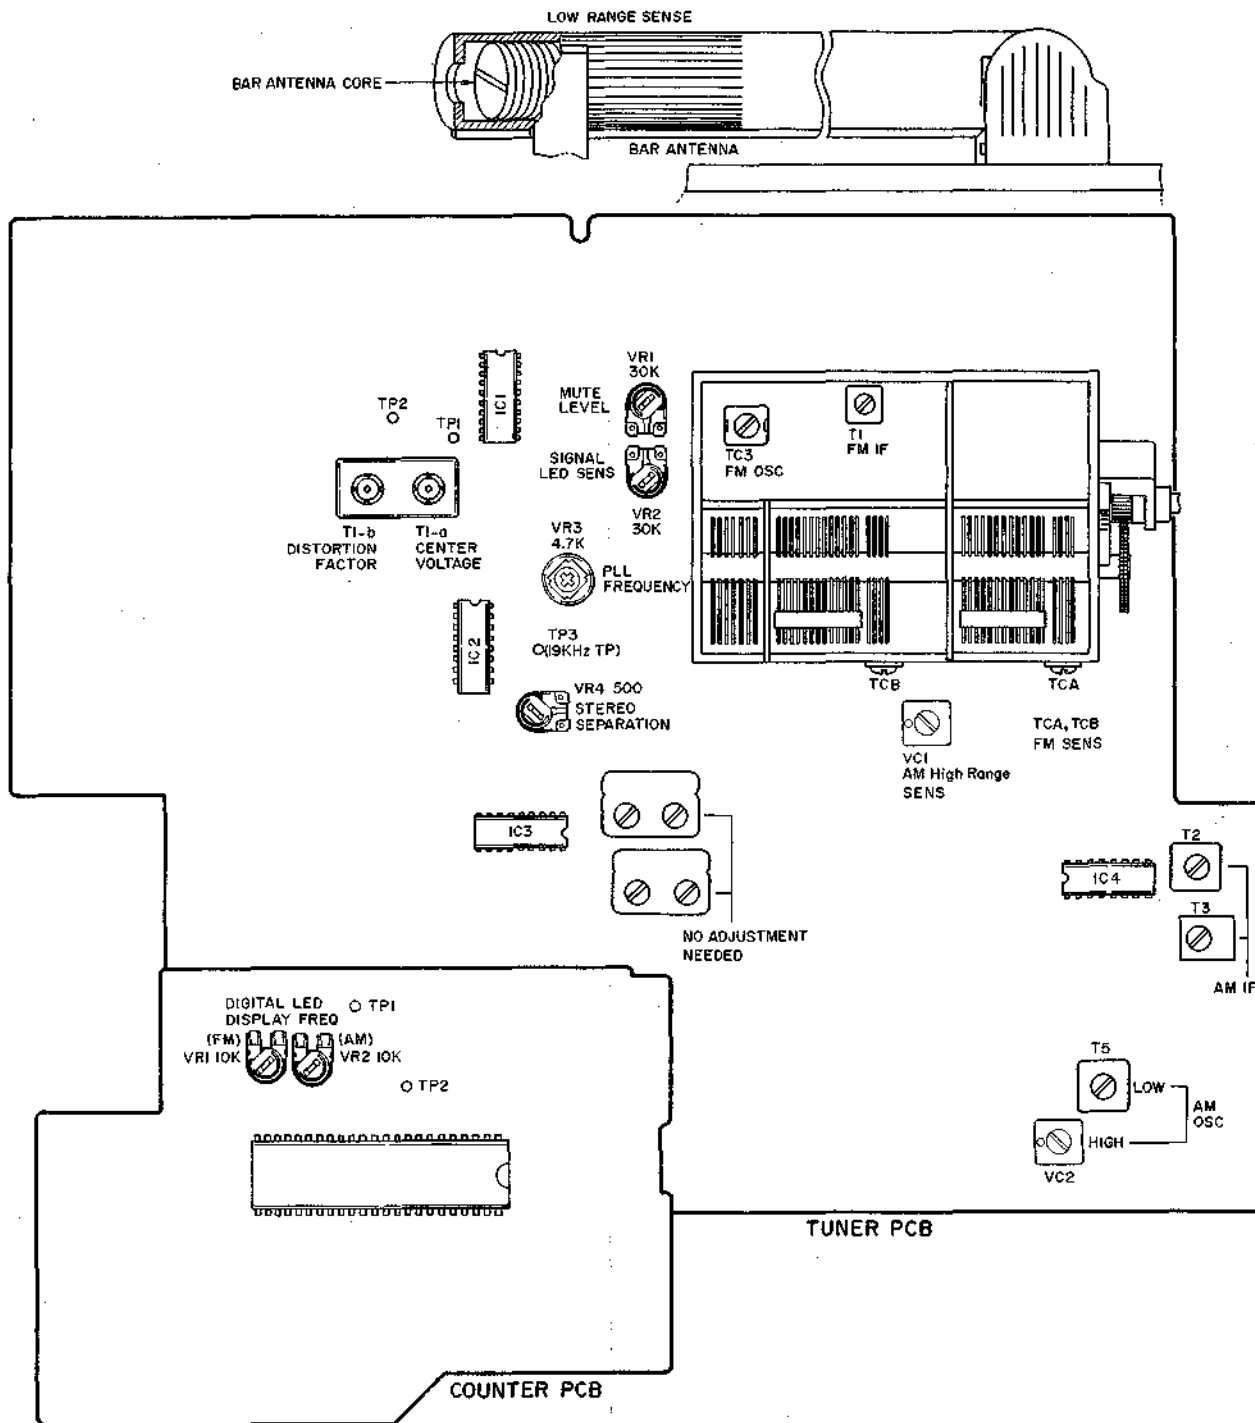

Fig. 5 Tuner P.C Board and Counter P.C Board (Model UC-K3/J)
### 1) FM Section Adjustments (Refer to Figs. 5 to 8)
Unless otherwise specified, use the adjustment points provided on the Tuner P.C Board (Figs. 5, 6)
2) AM (UC-K3L: MW) Section Adjustment (Refer to Figs. 5, 6, 9)